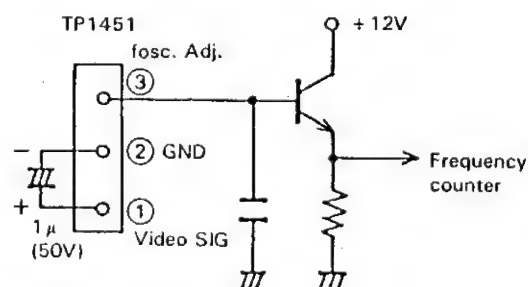

Figure 2-14. Buffer Circuit
1. Connect the frequency counter to pin ③ of TP1451 with a buffer in between, as shown in Fig. 2-14.
2. Add a 1 μ F/50V capacitor between pin ① (video signal) and pin ② (GND) of TP1451, as shown in Fig. 2-14.